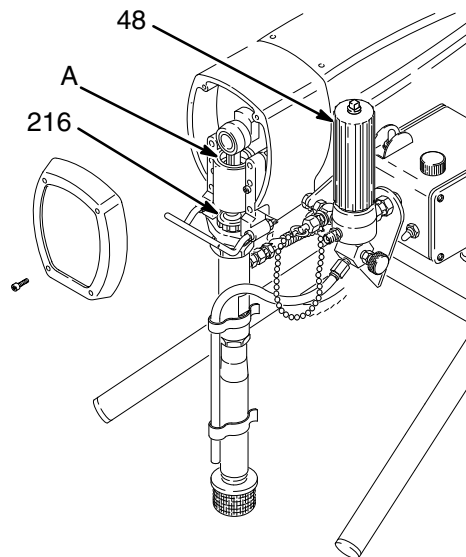

Fig. 6 01892
1. **Check the packing nut/wet-cup (216) daily.** Relieve the pressure. Keep the packing nut/wet-cup 1/3 full with TSL at all times to help prevent fluid buildup on the piston rod and premature wear of packings. Tighten the packing nut just enough to stop leakage. Overtightening may cause binding and excessive packing wear. Use a screwdriver and light hammer to adjust the nut. See Fig. 6.
2. **Clean the fluid filter (48) often** and whenever the sprayer is stored. First relieve pressure. See manual 307–273 for the cleaning procedure.
3. **Fill the connecting rod cavity (A) with motor oil** every 100 hours of operation. Relieve pressure first. See Fig. 6.